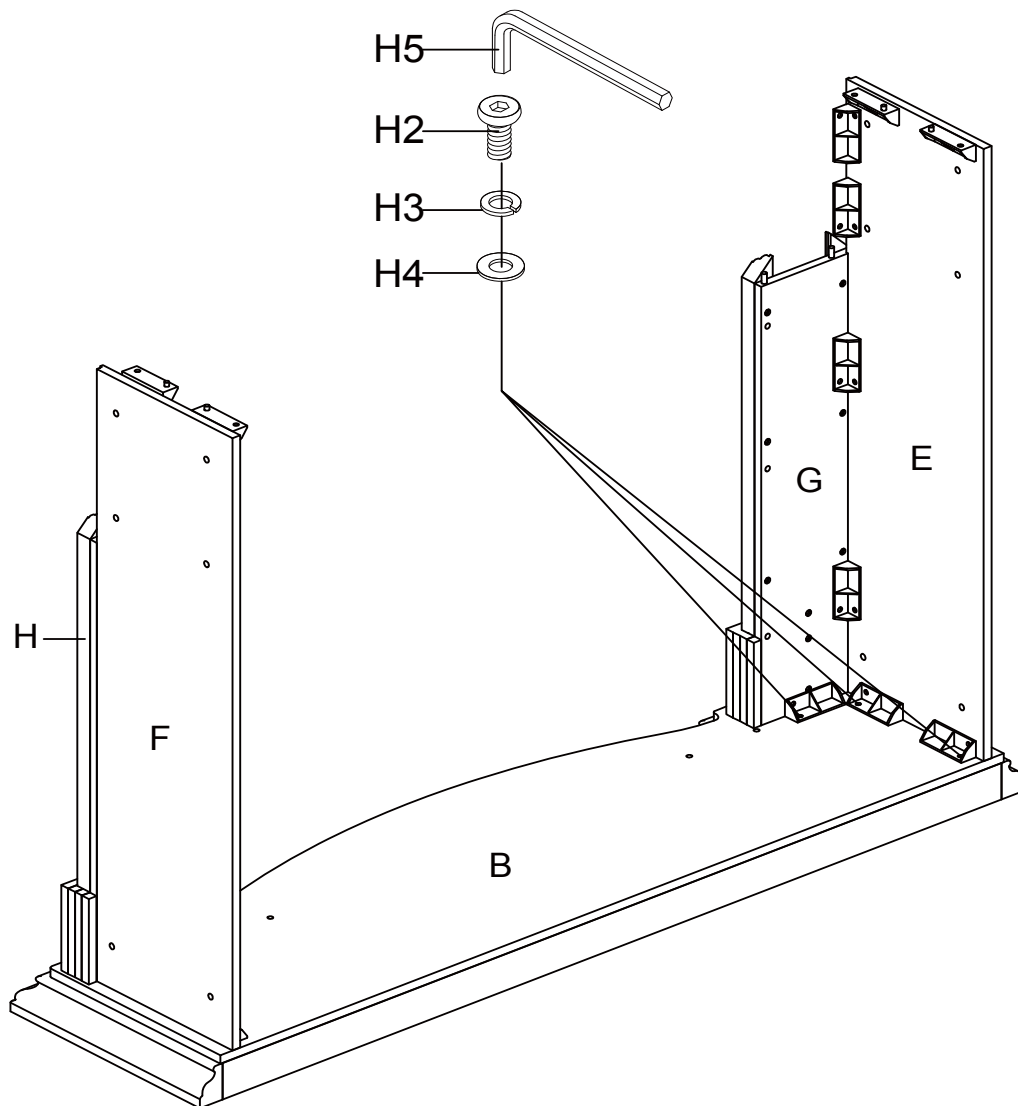

Figure 3
With assistance from another adult, insert the tenons of Left post (G) and Left side panel (E) into the corresponding holes of Base (B). Panels may need to be slightly adjusted to be inserted into the proper holes. Secure Left post (G) and Left Side panel (E) to Base (B) with Short bolt (H2), Spring washer (H3), Flat washer (H4) using Allen wrench (H5) as shown in figure 3. DO NOT fully tighten bolts in this step for later adjustment. NOTE: The Left post (G) and Left Side panel (E) should be supported until secured in place to prevent the panels from tipping and causing damage or injury. Repeat this process for the Right post (H) and Right side panel (F).